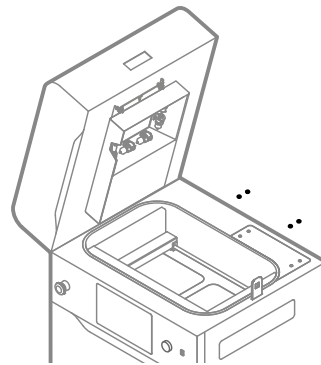

Fig. 13.62 Tighten the back four screws of the access panel.
13. Using a 2 [mm] allen key, tighten back the four screws securing the access panel on the top of the printer (fig. 13.62).